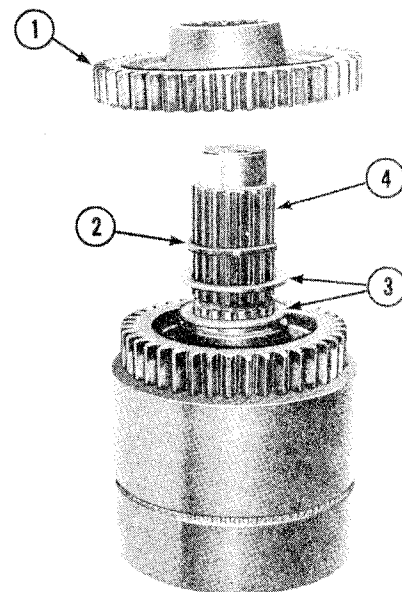

Figure 4-107
Use pry bars to remove output drive gear (1, Fig. 4-107) from lock ring (2). Remove washers (3) from shaft (4).